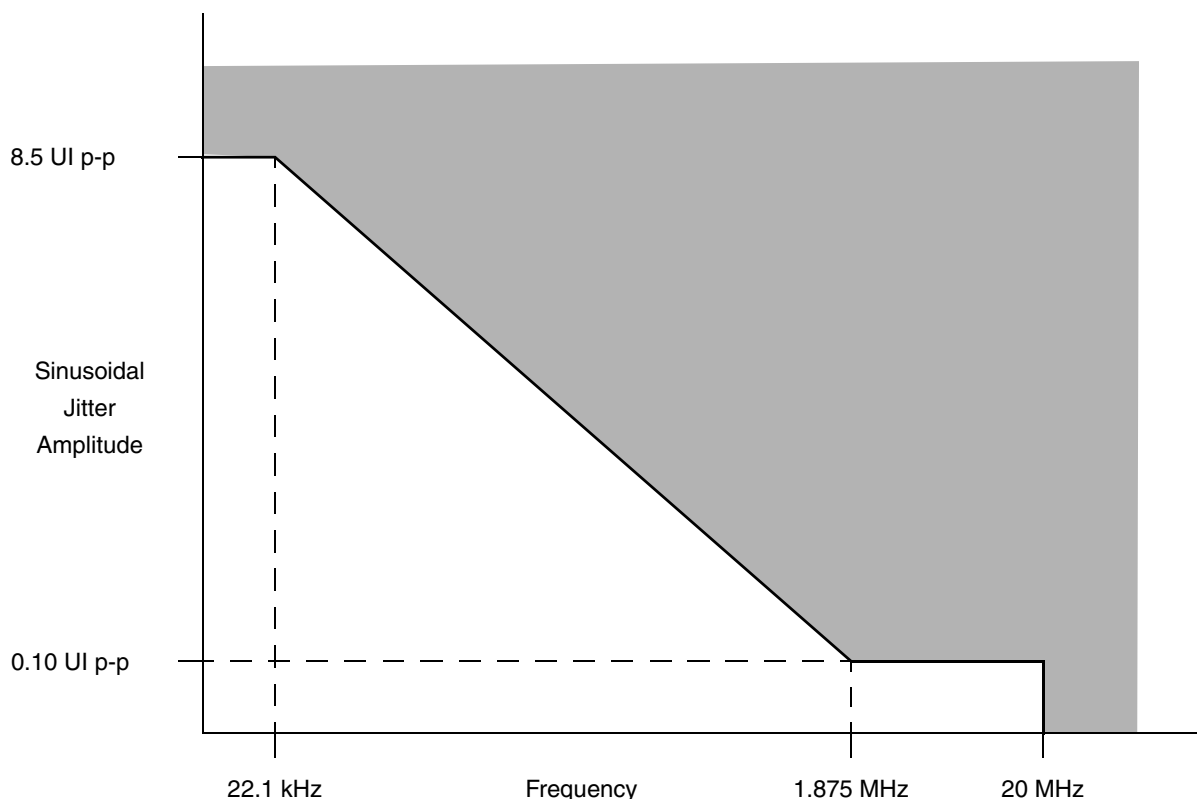

Figure 42. Single-Frequency Sinusoidal Jitter Limits
2. Total jitter is composed of three components: deterministic jitter, random jitter and single frequency sinusoidal jitter. The sinusoidal jitter may have any amplitude and frequency in the unshaded region of Figure 42. The sinusoidal jitter component is included to ensure margin for low-frequency jitter, wander, noise, crosstalk, and other variable system effects.
2. Total jitter is composed of three components: deterministic jitter, random jitter, and single frequency sinusoidal jitter. The sinusoidal jitter may have any amplitude and frequency in the unshaded region of Figure 42. The sinusoidal jitter component is included to ensure margin for low frequency jitter, wander, noise, crosstalk, and other variable system effects.